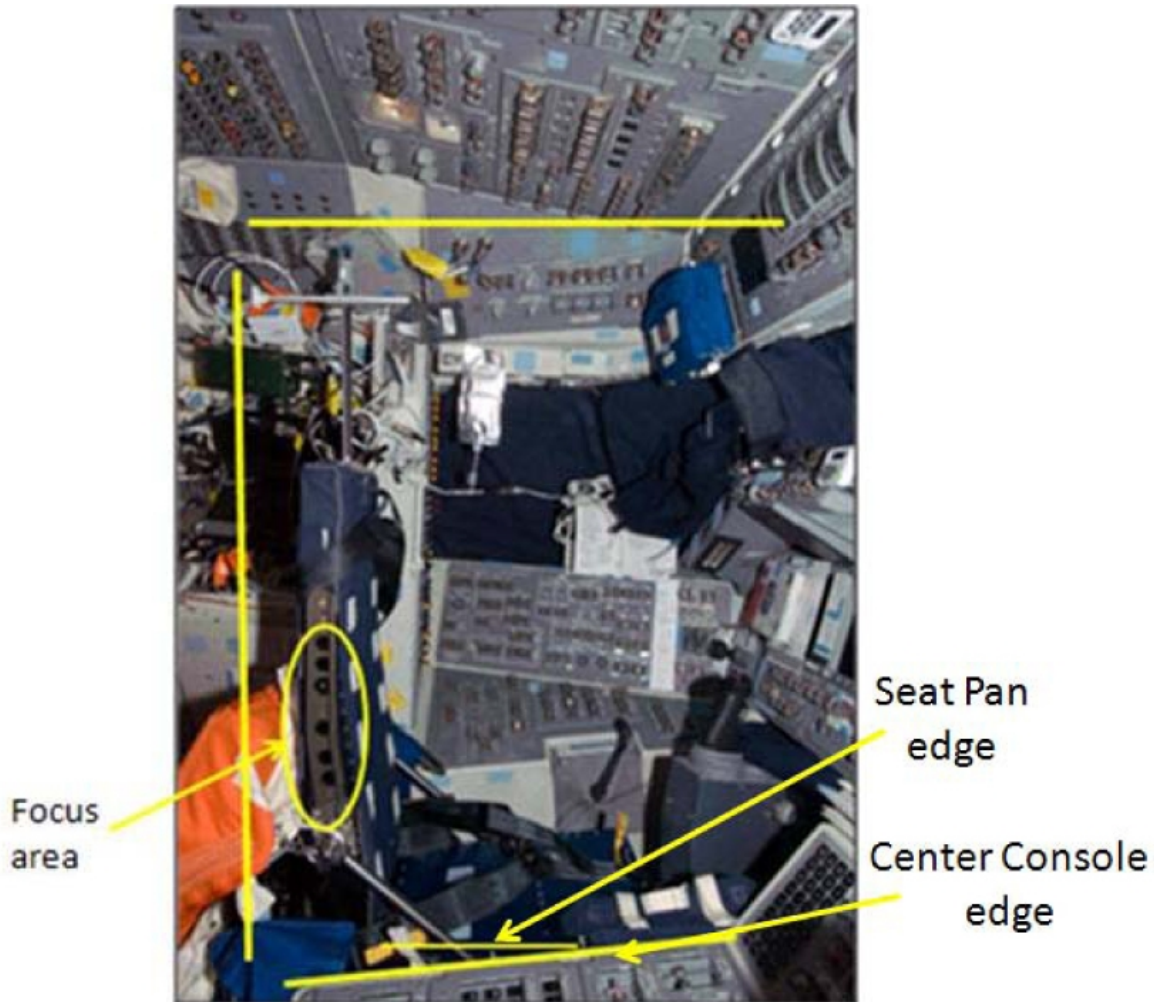

Figure 8. Correct D2Xs Camera Image Capture Area
- 4.6 Autofocus on CDR seat (specifically on the side of the seat with the circle as seen in Figure 8).
- 4.9 Take a test photograph. Entire profile of the CDR seat should appear in the picture. Refer to Figure 8 for an example. (Picture should have the entire edge of the center console, the edge of the seat pan, the back of the CDR seat, the top of the Slider Post and focus should be centered on the black holes within the area circled).